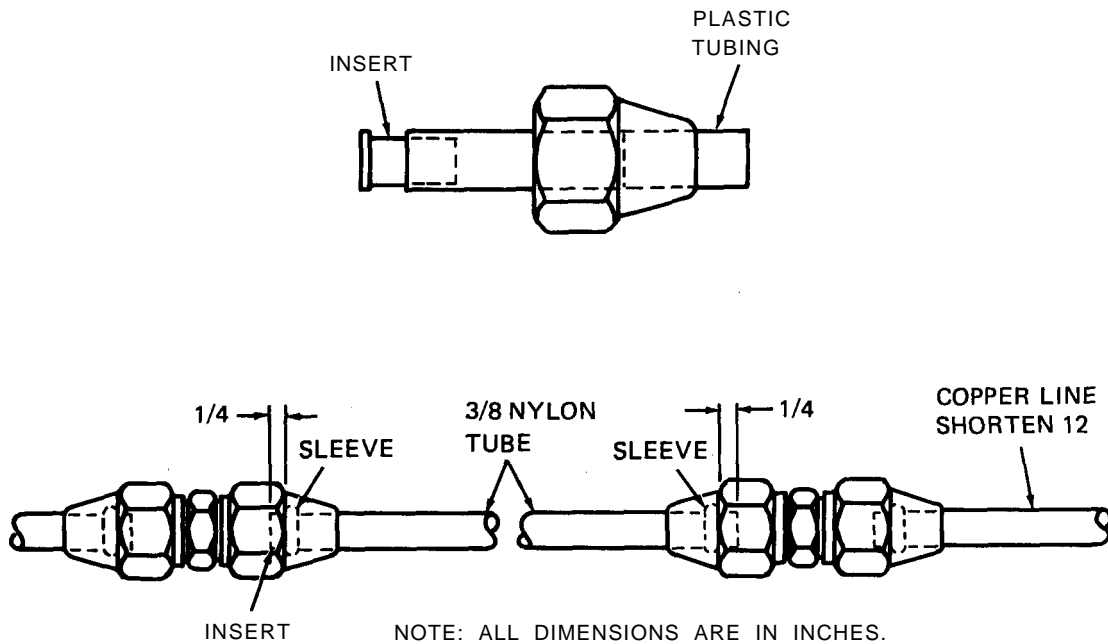

Figure 4-52. Assembly of nylon tubing
- (d) Install nylon tubing (fig. 4-52) in place of removed filter assembly..